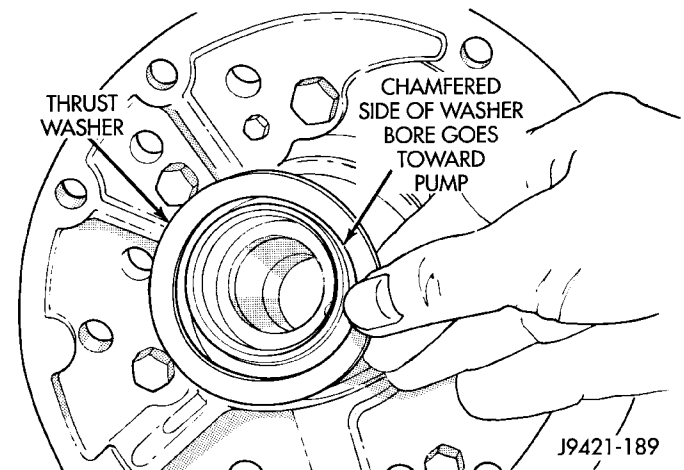

Fig. 141 Front Clutch Thrust Washer
(3) Coat front clutch thrust washer with petroleum jelly to hold it in place. Then install washer over reaction shaft hub and seat it on pump (Fig. 141).